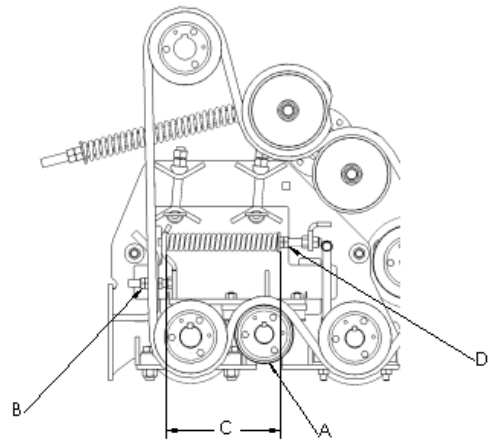

Figure 7-22: Front Grabroll Spacing Adjustment
3. Adjust nuts (B), shown in figure 7-22, to change the gap between smooth grabroll (A) and the scrolled grabrolls.